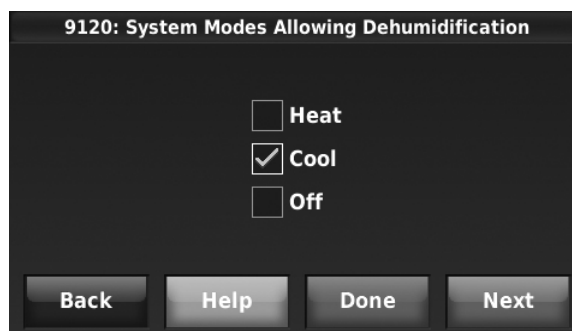

Fig. 122.
5. Select the system mode(s) to allow dehumidification. See Fig. 122.